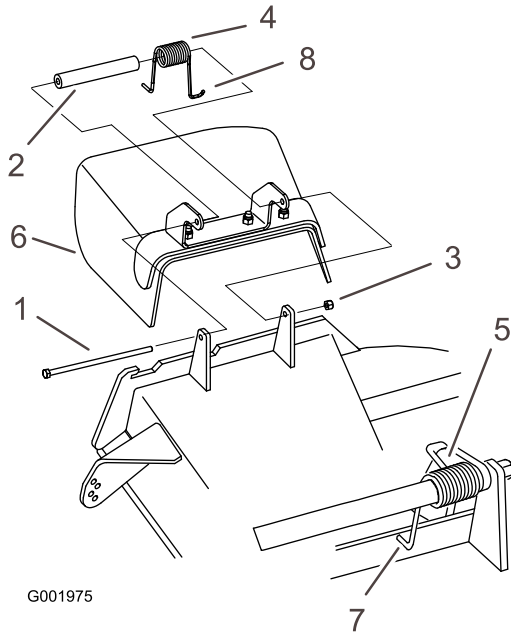

Figure 88
1. Remove the locknut, bolt, spring, and spacer holding the deflector to the pivot brackets (Figure 88).
**Note:** Make sure 1 J end of spring is installed behind deck edge before installing the bolt as shown in Figure 88.
6. Place 1 J-hook end of the spring around the grass deflector (Figure 88).